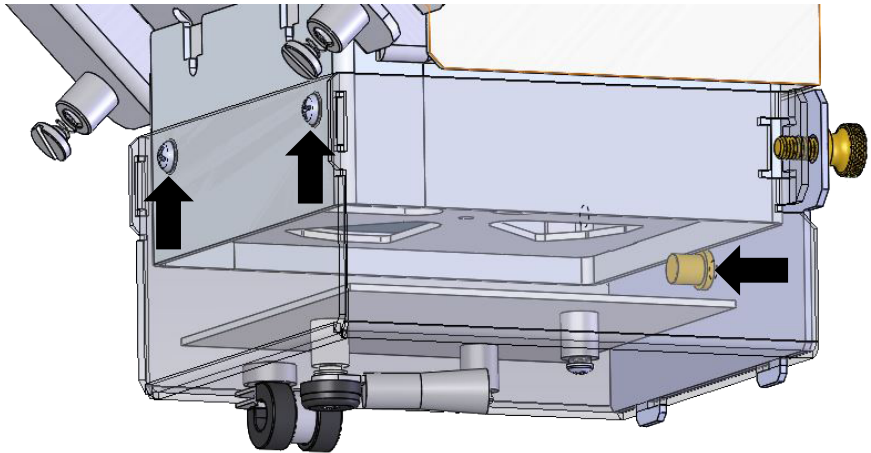

FIGURE 4-1. Test cover installed on the CS110. Arrows indicate the installation alignment points.
2. Remove the test cover and its cable. Install the test cover over the CS110 stator, making sure the holes align with the two screws on the stator. Hold the other end of the test cover so the stop on the cover maintains contact with the rim of the stator. Tighten the thumb screws to hold it in place (FIGURE 4-1).